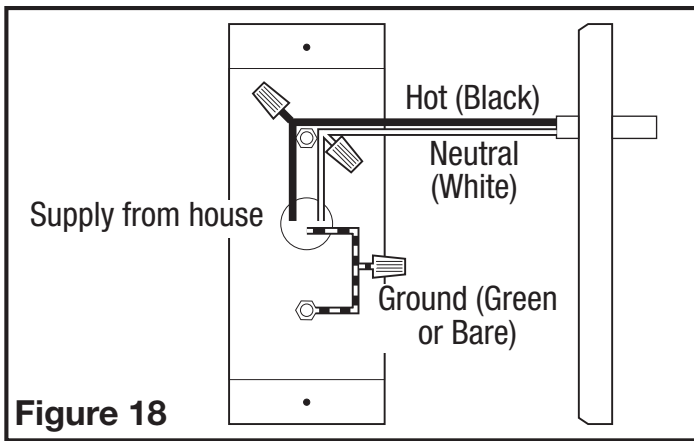

Figure 18
- Remove the two wire compartment cover screws to gain access into the wire compartment (Figure 17). Connect the white wire from the range hood to the white wire from the supply, and the black wire from the range hood to the black wire of the supply. Connect the ground wire from the home (green or bare) to the ground wire (green) from the hood. Use approved methods for all connections (Figure 18).